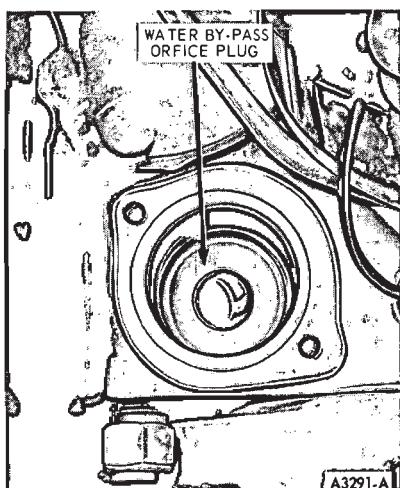
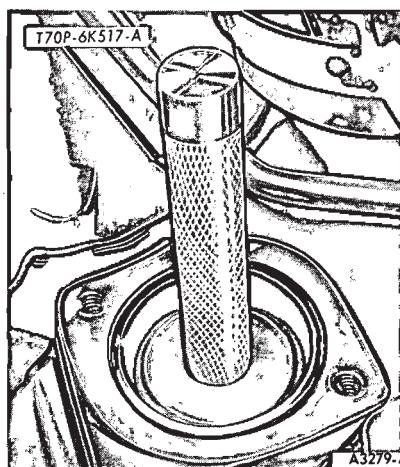

FIG. 50—Water Pump By-Pass Orifice Plug
FIG. 51—Installing Water Pump By-Pass Orifice Plug
51. Remove the water pump by-pass orifice plug (Fig. 50). Install a new water pump by-pass orifice plug with the tool shown in Fig. 51.